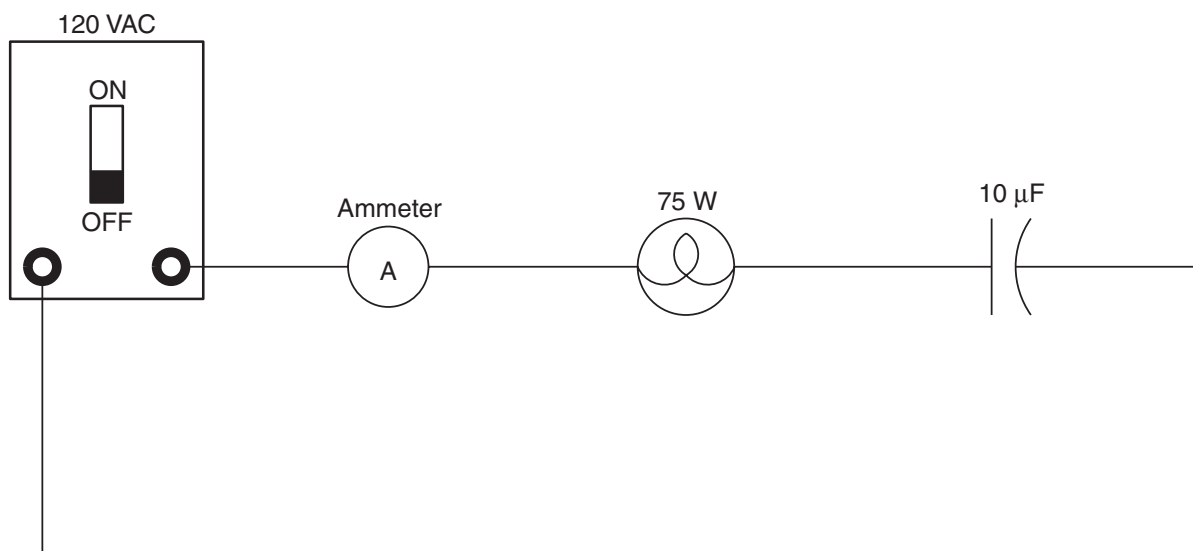

Figure 14-6 Replacing the circuit components.
16. Replace the 100 watt incandescent lamp with a 75 watt lamp and replace the 25 μF capacitor with a 10 μF capacitor, as shown in Figure 14-6.